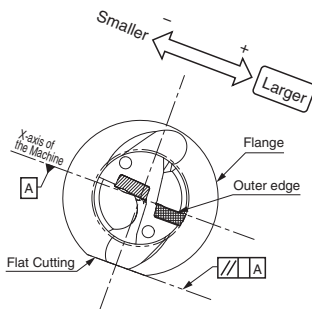
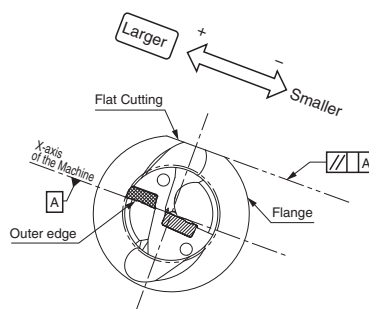

Fig. 2 Outer insert Facing Up
Fig. 3 Outer insert Facing Down
The Center Height is appropriate if a core approximately 0.5mm diameter remains at the center of the end face. (Fig. 3)
- (2) In case of making the hole diameter larger, slide the tool along the X-axis toward the outer insert side. (Fig. 2, Fig. 3)